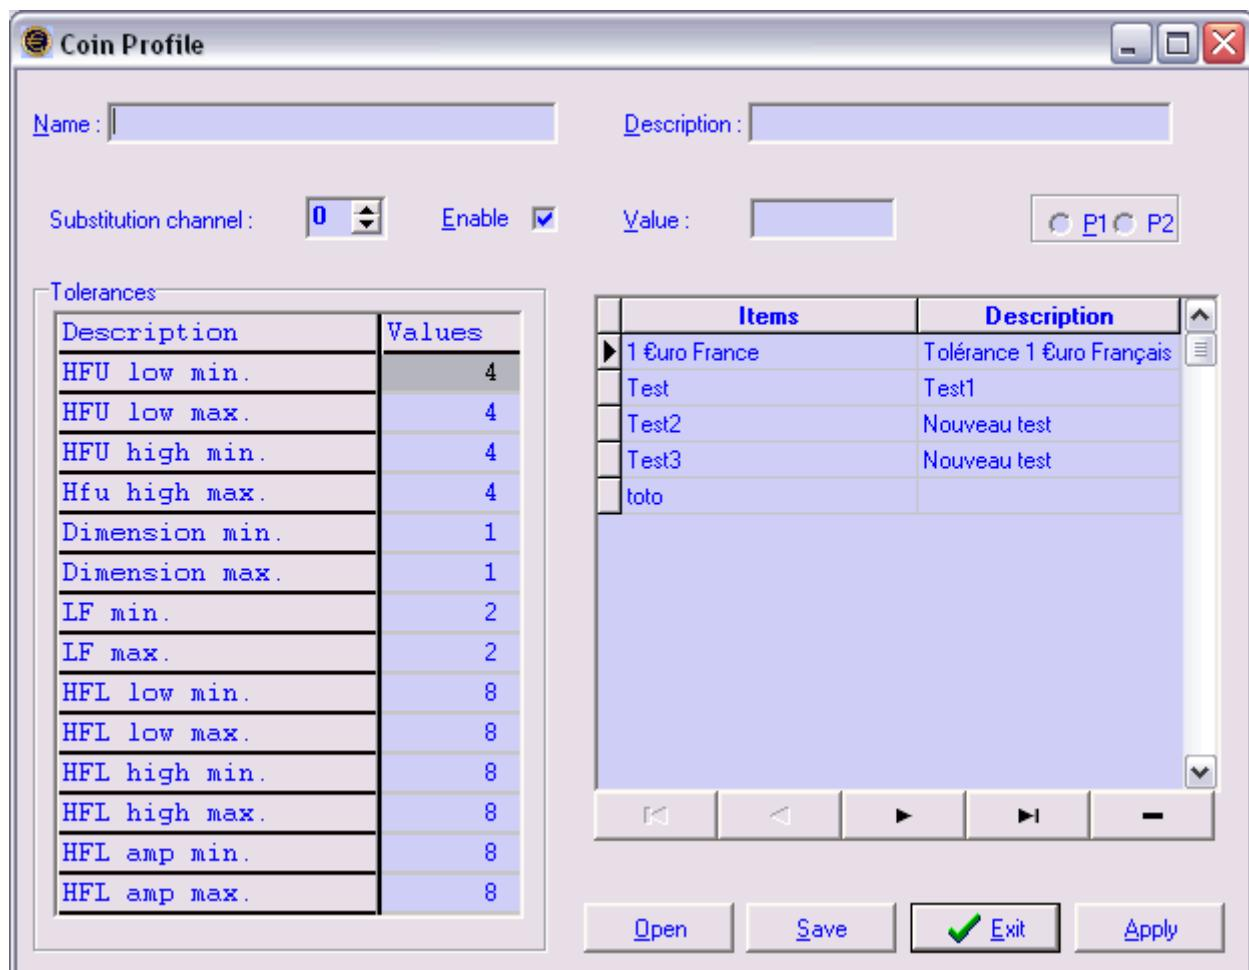

FIGURE 7
The coins profiles (Figure 7) are the descriptive of coins :
- Click the button « *Select...* » in the window of calibration. The window « *Profile coins* » appears (Figure 7)